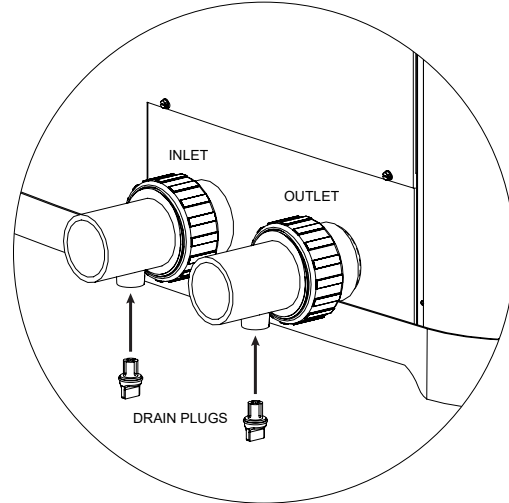

Figure 60. Drain Plug Locations
2. With the pool pump OFF, close the external shut-off valves and remove the drain plugs located in the inlet and outlet water unions to allow water to drain. See Figure 60.